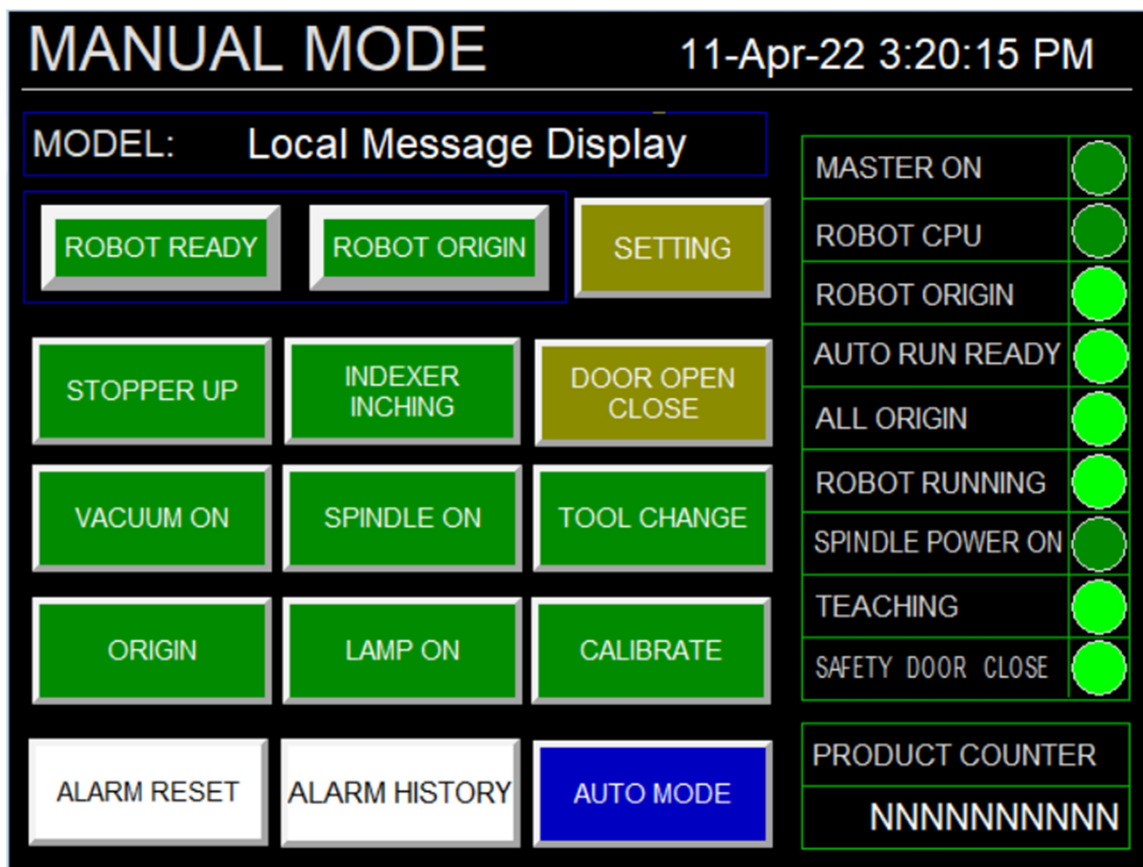

FIGURE 3: MANUAL SCREEN
- 3) Then, press **ROBOT READY** followed by **ROBOT ORIGIN** switch before press **ALL ORIGIN** switch as shown in Figure 3.